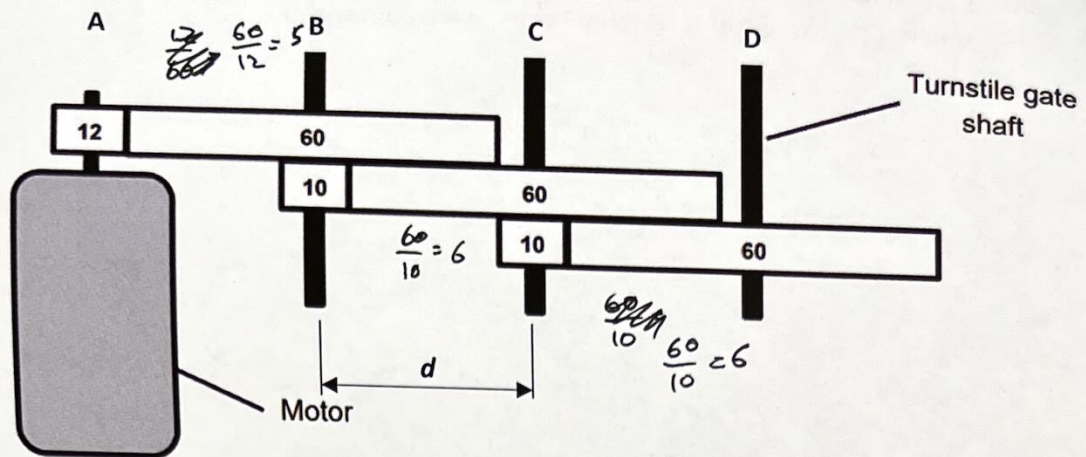

Figure 2
2. Figure 2 show the plan view of the compound gearing system within a turnstile. The numbers indicate the number of teeth on each spur gear.